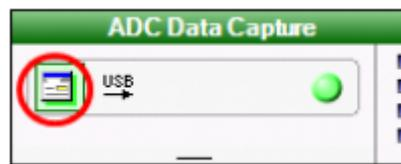

Figure 7. VisualAnalog ADC Data Capture Block
4. To configure VisualAnalog to operate with the AD9249, push the Settings button on the ADCDataCapture block, as shown in Figure 7.